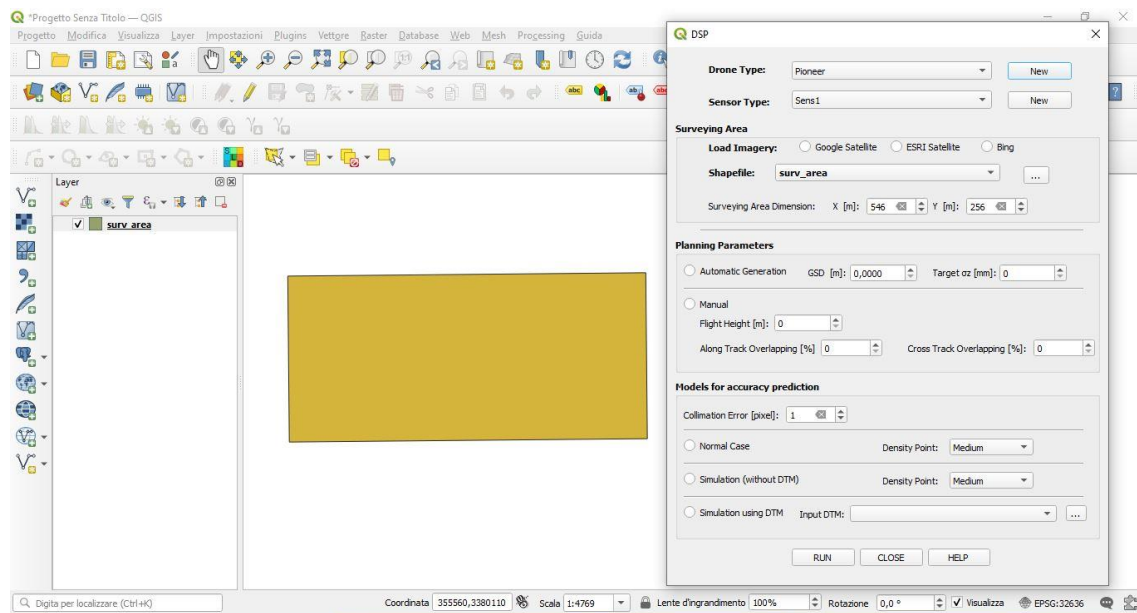

Figure 5
- 1) If retrieving the area dimension automatically, the user must provide a shapefile to the application. This can be done both loading a vector layer in QGIS table of contents (TOC) before opening the DSP plugin, such that its name will automatically appear in the Surveying Area combo box (Figure 5) or loading it directly from the plugin by using the browse. After a valid shapefile is loaded, the application will automatically retrieve the area dimensions in meters (X, Y) and the values will be displayed.